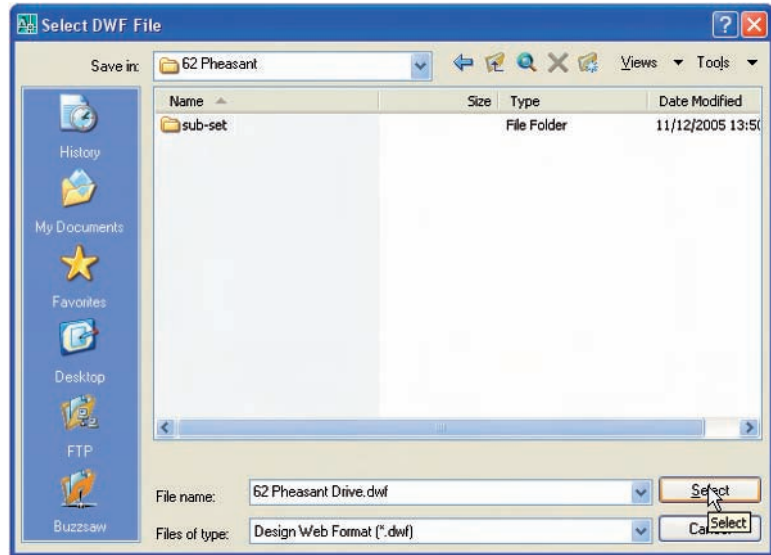

Fig. 11.10 The **Select DWF File** dialog
1. In the **62 Pheasant Drive** Sheet Set Manager *click* the **Publish to DWF** icon (Fig. 11.9). The **Select DWF File** dialog appears (Fig. 11.10).